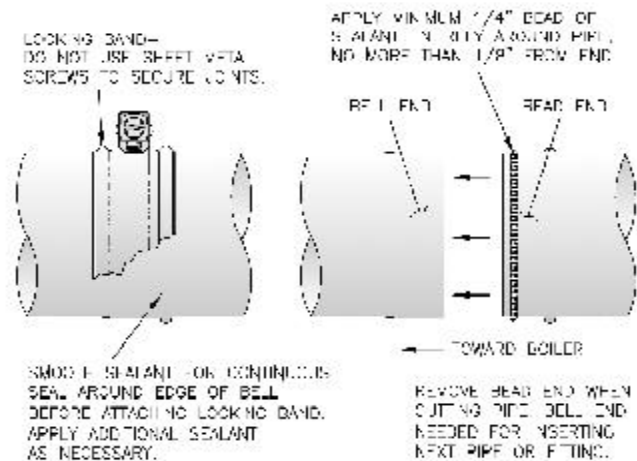

Figure 8: Typical Joint Detail
6. Procedure for joining pipe and fittings. See Figure 8.